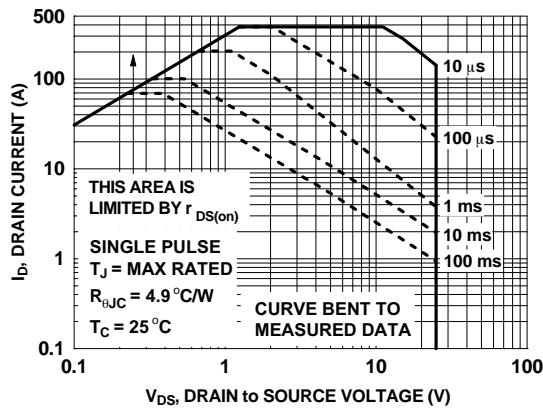

Figure 11. Forward Bias Safe Operating Area
3. Pulsed  $I_D$  please refer to Figure 11 and Figure 24 SOA graphs for more details.